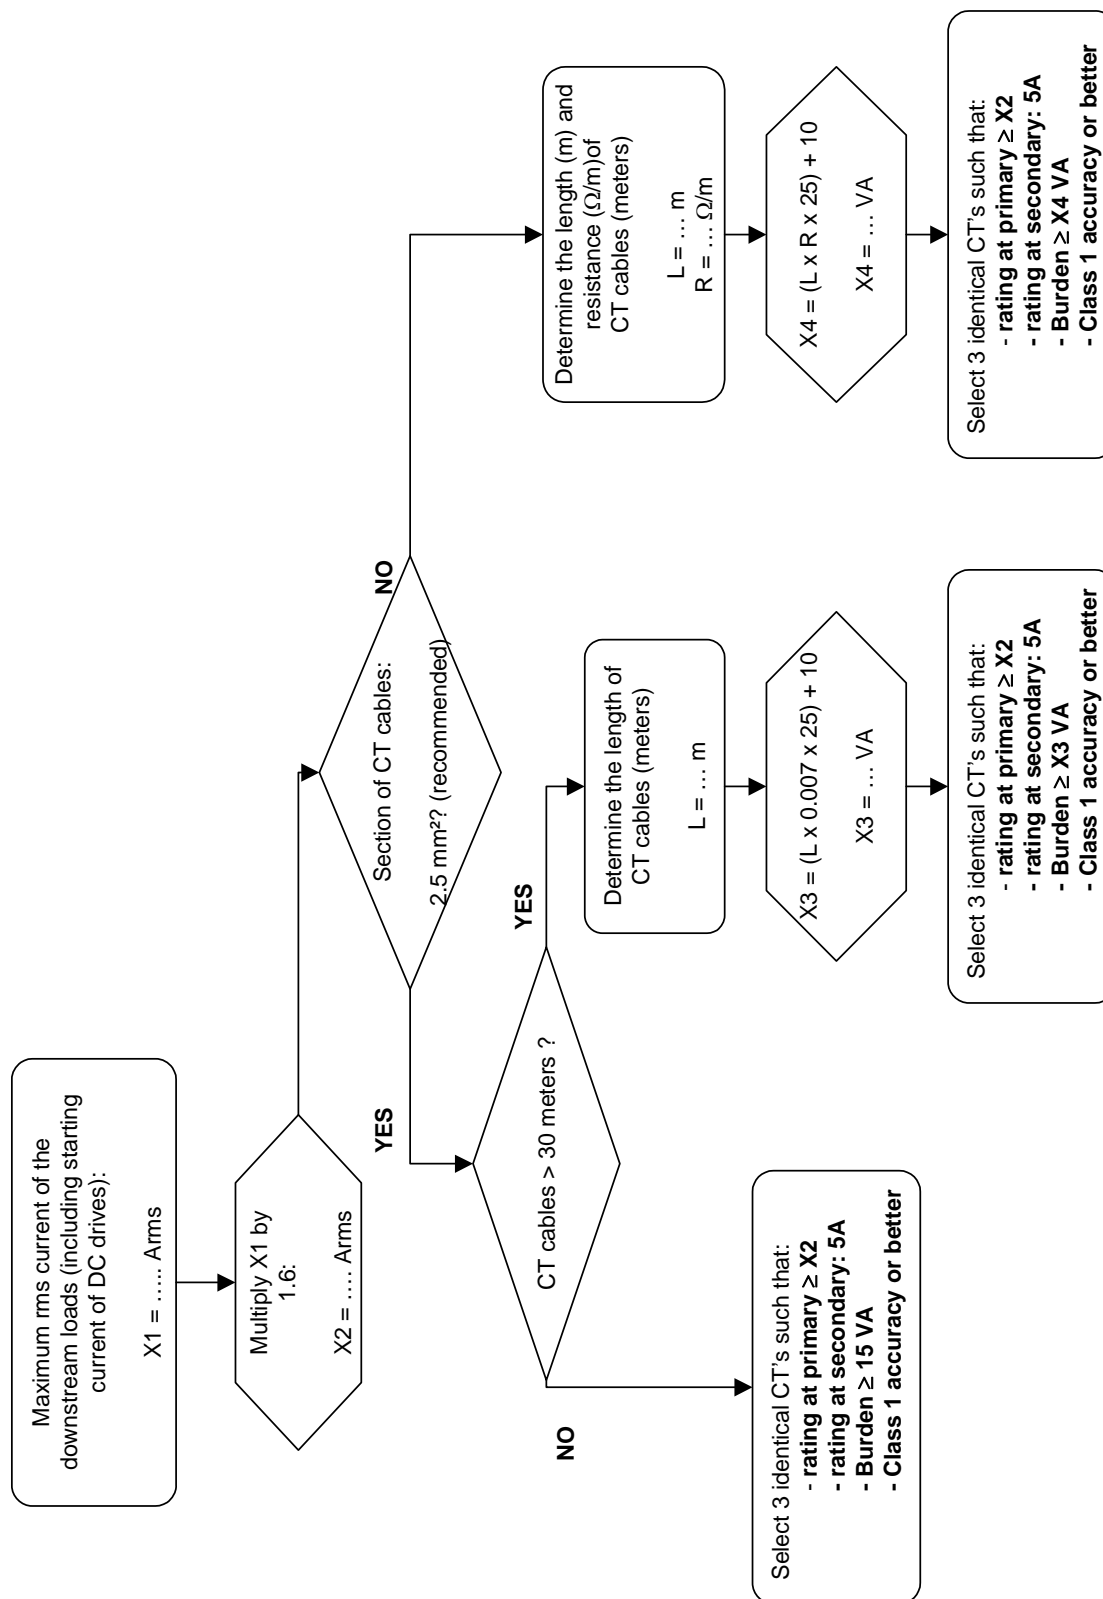

Figure 7.12. Flow chart for CT determination
- 15 VA burden for up to 30 meters of 2.5 mm² cable. For longer cables lengths refer to the chart in Figure 7.12. In case the CTs are shared with other loads, the VA burden shall be adapted accordingly.
In order to determine the suitable CTs for your application, please refer to the chart in Figure 7.12.